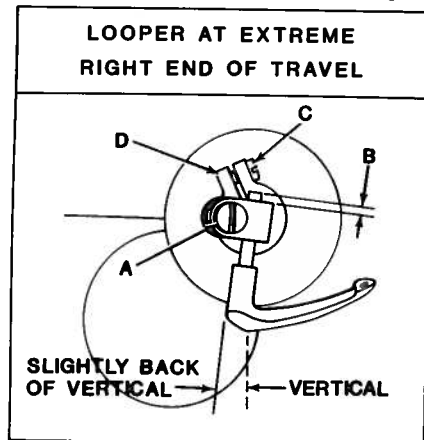
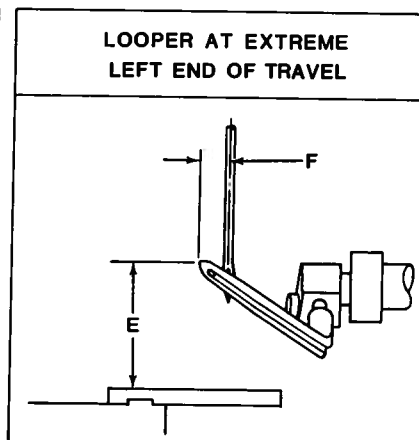

Fig. 12
Fig. 13
Figures 12 and 13 and the chart following relate approximate dimensions for adjusting upper looper at its extreme right and left positions of travel.
1. Position upper looper at the left end of travel, loosen clamp screw (A, Fig. 12) set upper looper shank to dimension "B" above holder, then temporarily tighten screw (A).
2. With upper looper positioned at the right end of travel, loosen screw (C) and rotate holder (D) as required to set shank slightly back of vertical as shown in Fig. 12, then temporarily tighten screw (C).
4. Continue to rotate handwheel in operating direction until looper is at extreme left end of travel. Rotate upper looper holder as required to position POINT of upper looper to dimension "E", Fig. 13, from top of throat plate. Recheck Step 3.
5. With upper looper still positioned at left end of travel, it may be necessary to move looper holder in or out of its shaft to set POINT of looper dimension "F", Fig. 13 which is to the left of centerline of needle (or left needle). Tighten screw (C, Fig. 12), then screw (A) securely.